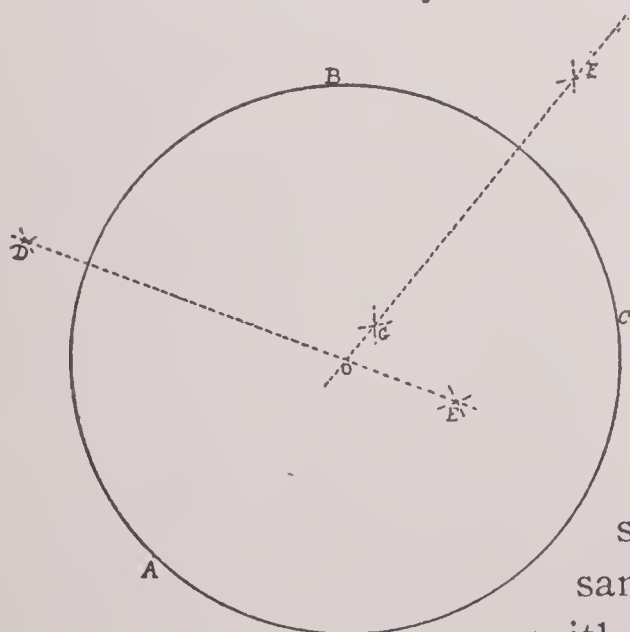

Fig. 12
12. To pass a circle through three points not in the same straight line (Fig. 12):